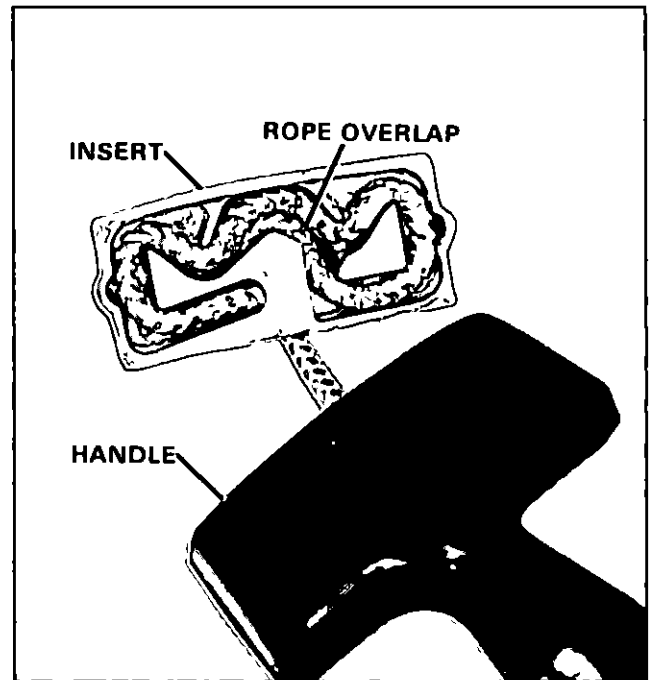

Figure 6 Placing Starter Rope in Insert.
- D Feed rope through handle and into insert Fold end over, so that there is an overlap of rope at midpoint of retainer Figure 6
- 3 Place upper bracket on spool shaft, seat and install with two (2) screws